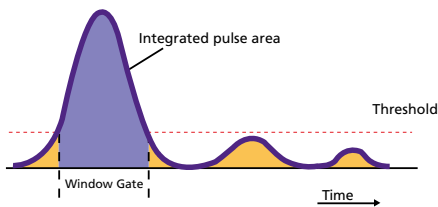
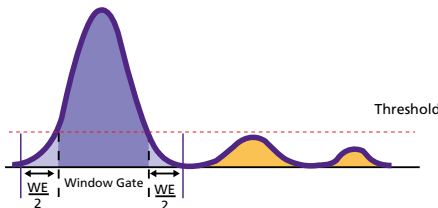

Figure 2. Window gate and pulse integration.
Figure 3. Visual representation of window extension.
In a BD digital system, the detector output is continuously digitized, whether a pulse is present or not. The threshold defines the signal level at which the system begins to measure a pulse within the continuous data stream. The window gate (WG) is the time interval during which any given signal is greater than the threshold (Figure 2), and the system samples the input signal to calculate the area of a pulse (shaded in blue). Any signals that do not cross the threshold are ignored and are not processed (shaded in orange). Once a signal exceeds the threshold, data is recorded until the signal falls to 75% of the initial threshold level.
As shown in Figure 2, the generated WG will not span the entire pulse, since the pulse actually begins before the WG opens (threshold) and ends after it closes. To ensure that the pulse is completely integrated, additional time is added before and after the WG (Figure 3).
The time added to each end of the WG is called the window extension (WE). Half of the WE time (WE/2) is added before the WG and half afterward (shaded in light blue). For example, on the BD FACSCanto II system, the WE defaults to a value of 7, with 3.5 μ s added before the WG and 3.5 μ s afterward. The total time span for integrating pulse area is WG + WE (Figure 3) (shaded in blue and light blue). When the WE is set to 0, the pulse width of the processed signal is equivalent to the WG. If the WE is too short, pulses might not be fully integrated.